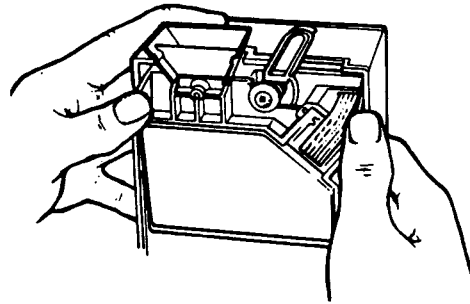

Figure 2 : Lowering the Acceptor Assembly
- Lower the Acceptor Gate Assembly by depressing both spring clips (Figure 2). Hinge the Acceptor forward.